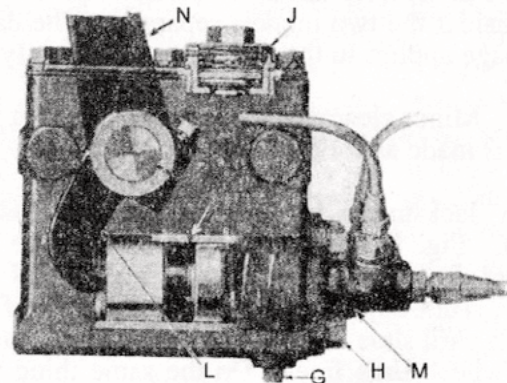

Fig. L11 - Complete compensating master cylinder and integral supply box unit used on latest model Lockheed systems.
Fig. L11 shows the complete unit. (N) is the shaft on which the brake pedal fits on the outside of the tank. (L) is a falcon lever on the inside of the tank, fitting on the same shaft and engaging with the piston.